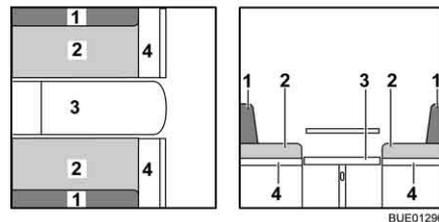

Fig. 113 During conversion
- Widen bench seat (Fig. 113,4).
- Remove the back cushions (Fig. 113,1) and lay them aside.
- Pull the seat cushions (Fig. 113,2) into the centre.